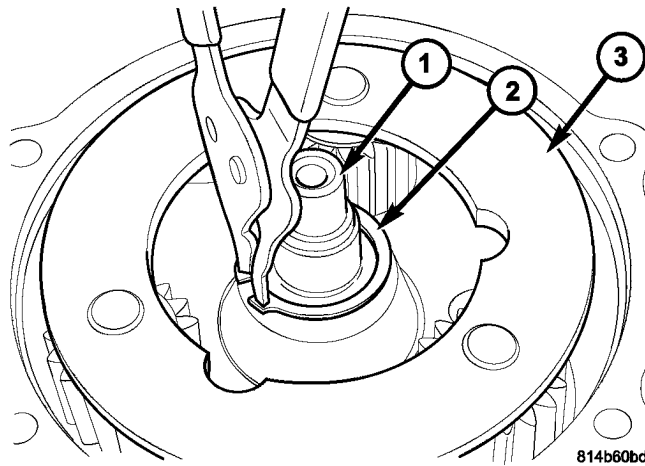

Fig. 1 REMOVE SNAP-RING FROM INPUT SHAFT
5. Remove the snap-ring holding the input shaft to the planetary gear system (Fig. 1).
16. Install the snap-ring to hold the input shaft to the planetary gear system (Fig. 1).